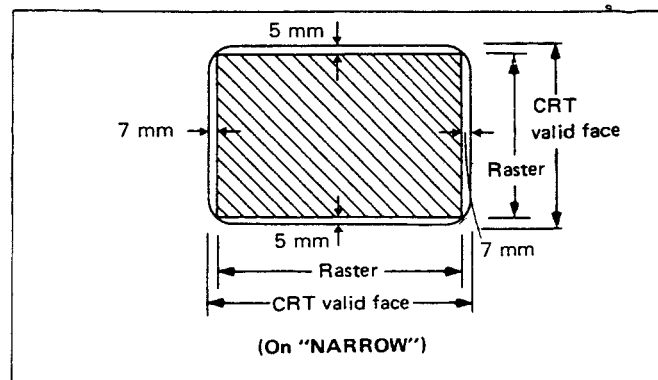

Fig. 6
3. Perform the adjustment so that the length from both left and right side of the CRT to the picture terminal becomes 7 mm with the H. WIDTH COIL (L1505) when the SCAN switch is set to the NARROW position as shown in Fig. 6.
5. Perform adjustment so that the length from both top and bottom end of the CRT to the pattern top and bottom becomes 5 mm as shown in Fig. 6 using the V. HEIGHT VR (R1417) when the SCAN switch has been set to the NARROW position.